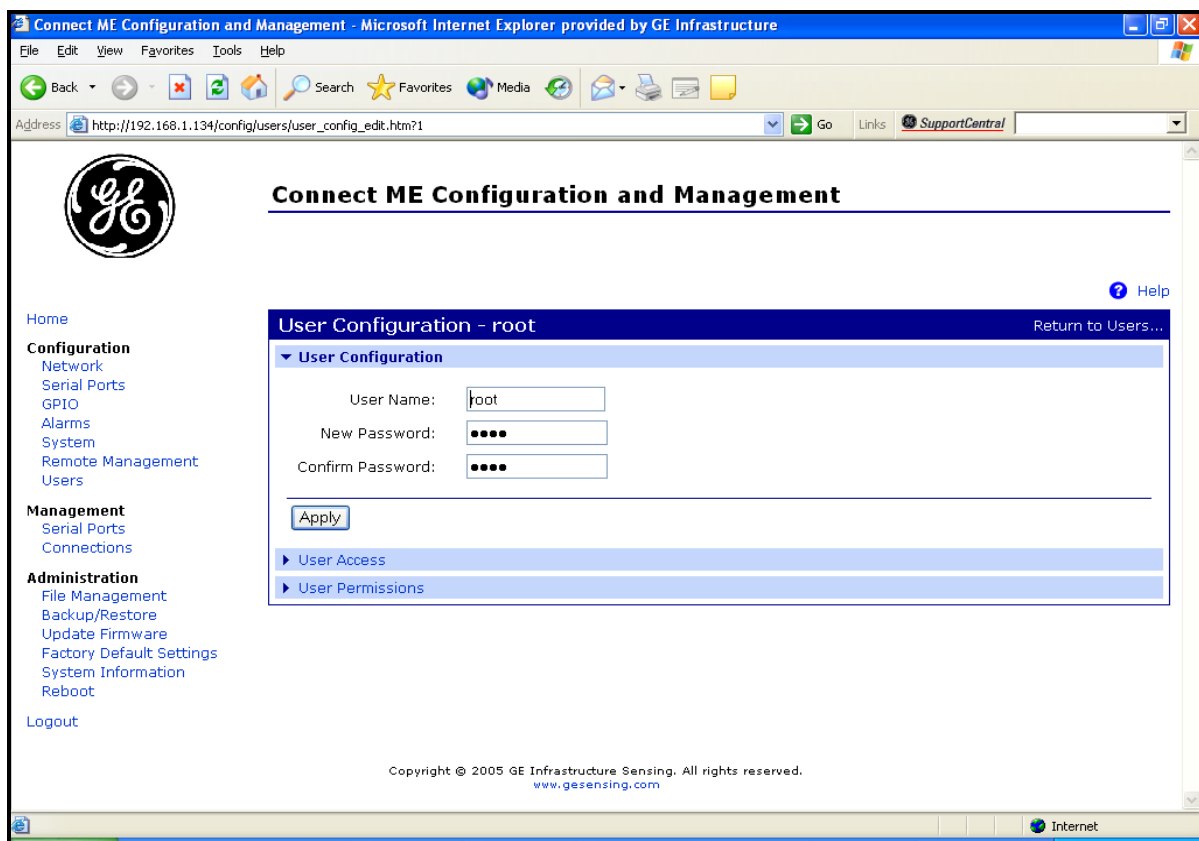

Figure 25: Changing the User Name and/or Password
5. Click on **New....** Figure 25 on page 34 appears.